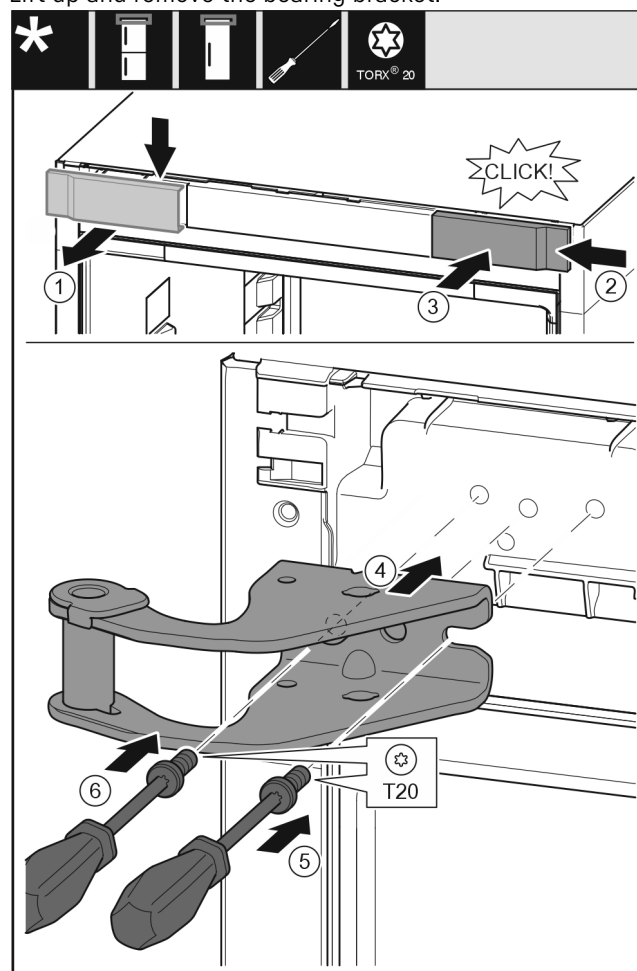

Fig. 11
- Remove the cover Fig. 11 (1) from above towards the front.
- Turn the cover Fig. 11 (2) by 180° and attach to the other side from the right.
- Engage the cover Fig. 11 (3).
- Place the top swap bearing block Fig. 11 (4).
- Use screwdriver Fig. 11 (5) to place the screw and tighten it.
- Use screwdriver Fig. 11 (6) to place the screw and tighten it.